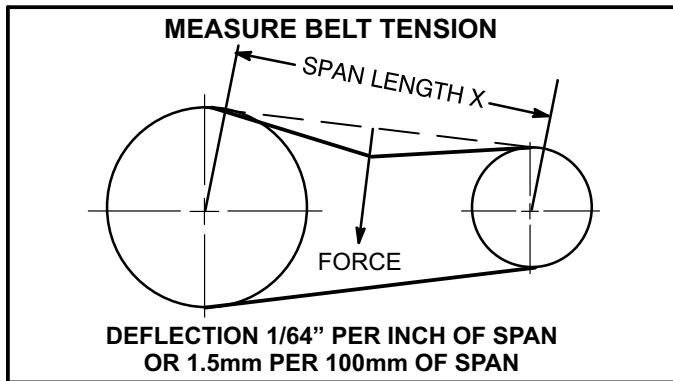

FIGURE 10
- 1- Measure span length X. See figure 10.